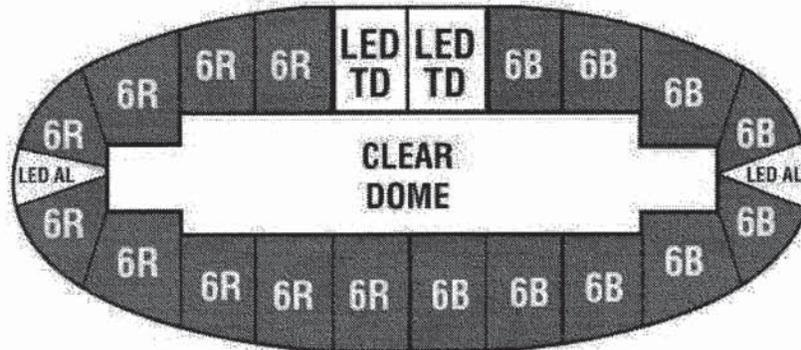

Figure 6 – Federal Signal – Arjent® S2 Light Bar configuration
- (1). Federal Signal – Arjent® S2 Light Bar or equivalent, with clear cover and top dome (see Figure 6 for configuration); or